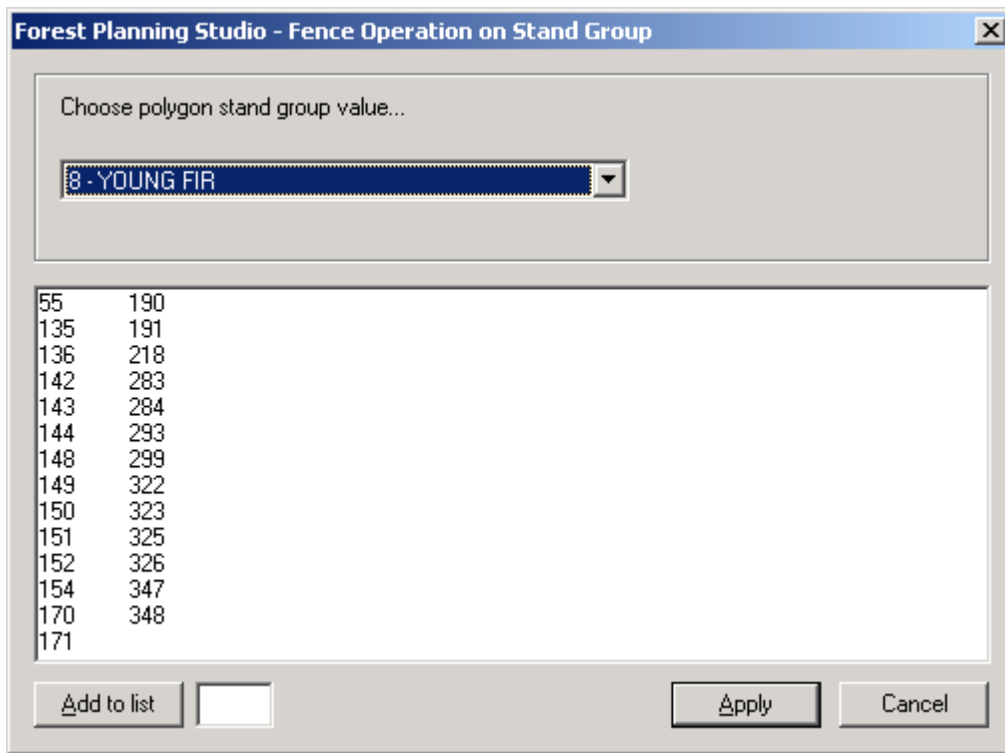

Figure 61: changing polygons for thinning to their new stand group.
12.3.10 Move these two *Stand Groups* to the top of the priority list to ensure they will be Thinned at 70 years and Clearcut at 150 years (figure 61).